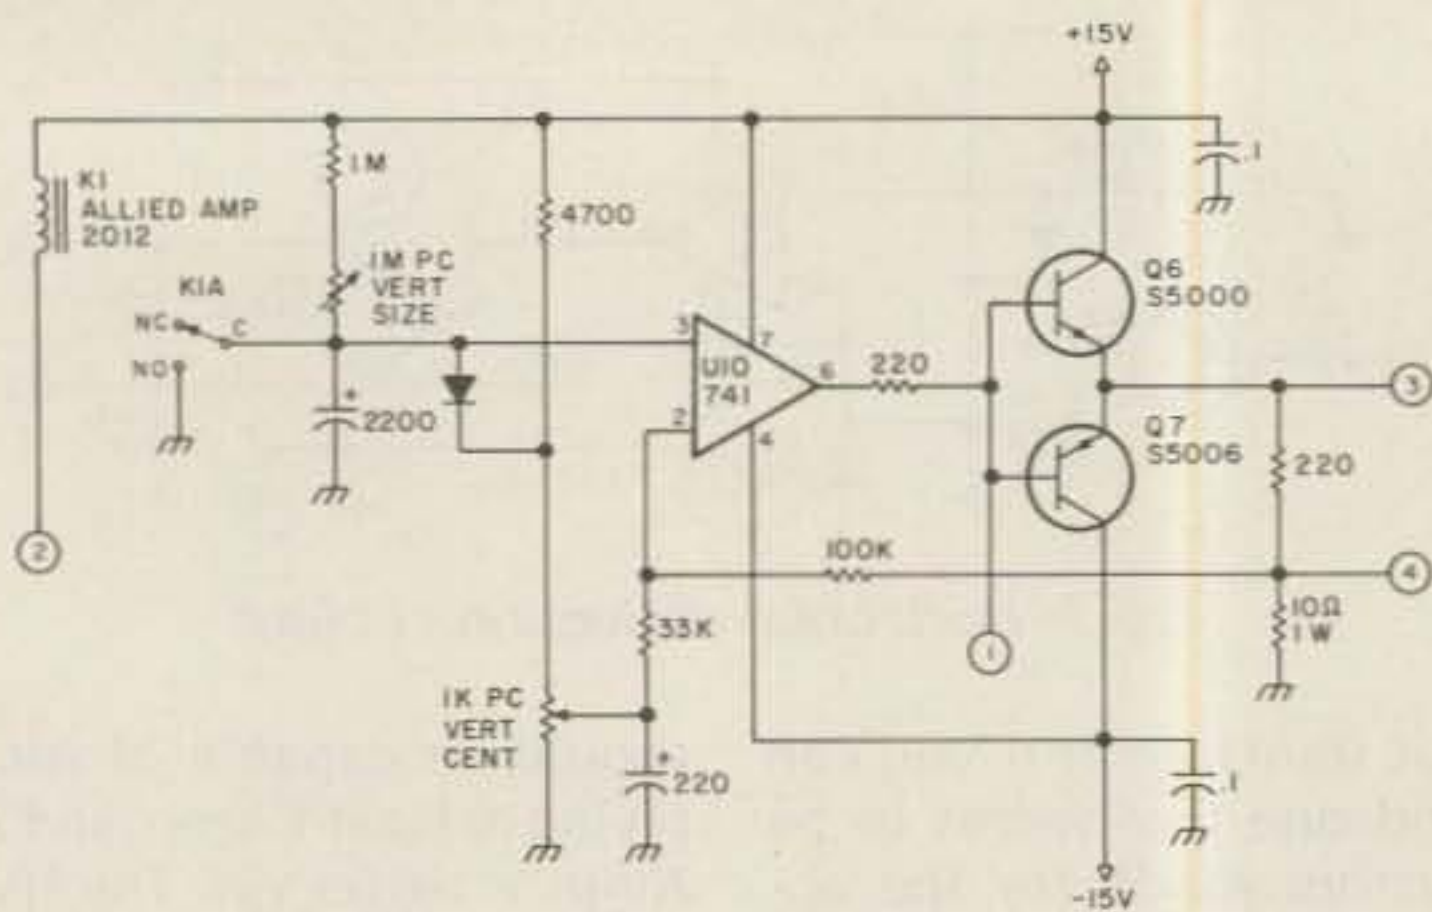

Fig. 6. Vertical deflection circuits.
**Vertical deflection** (Fig. 6). The vertical circuits, with a few exceptions,